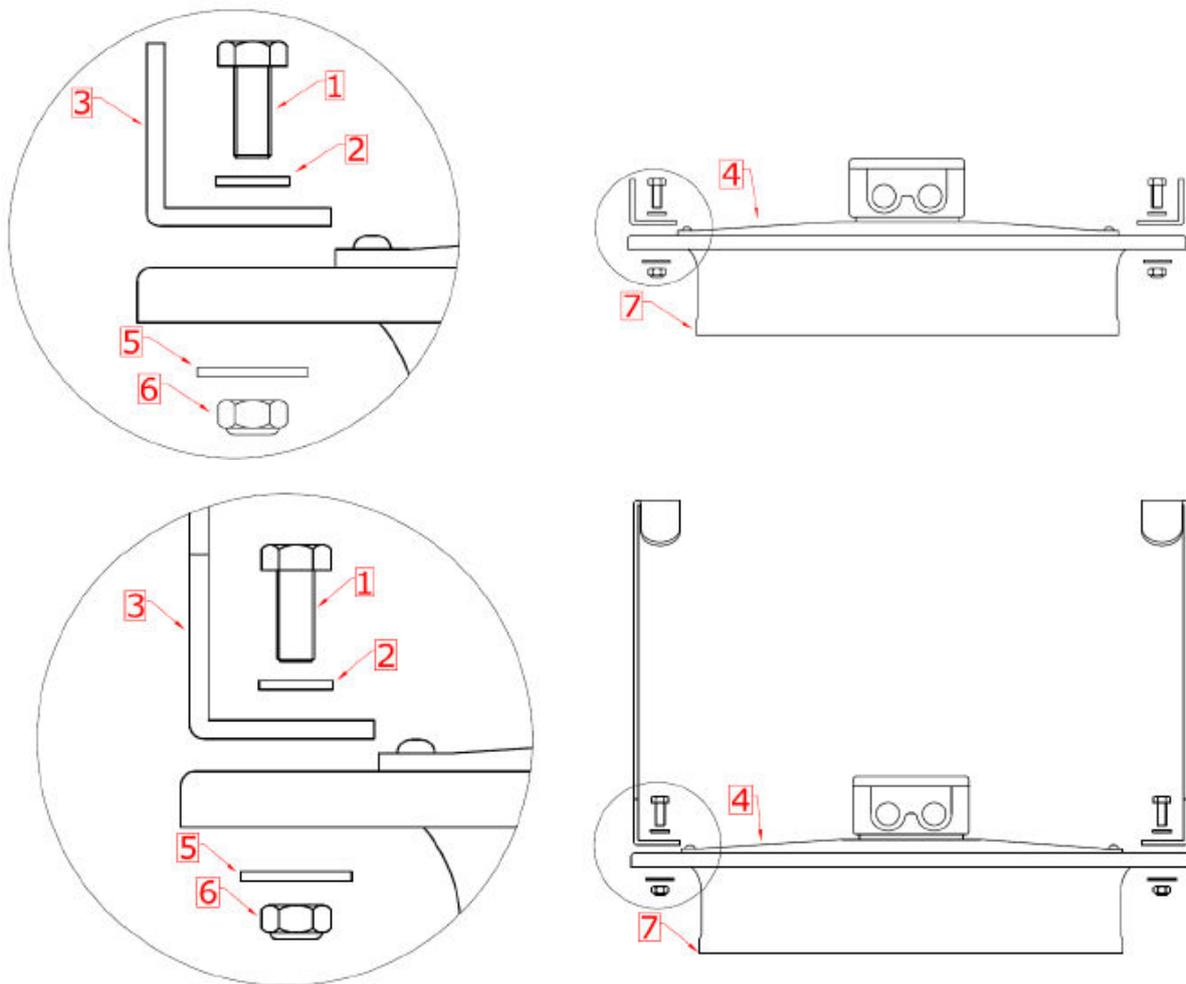

Figure 6: Mounting of the angle profiles to the lowering bracket
- Attach the two stainless steel angle profiles or lowering brackets (3);
- Use four stainless steel m8x20 screws (1), m8 stainless steel washers (2), m8 stainless steel bodywork washers (5) and stainless steel m8 self-locking nuts (6) on the suction side of the fan (4);
- See figure 6